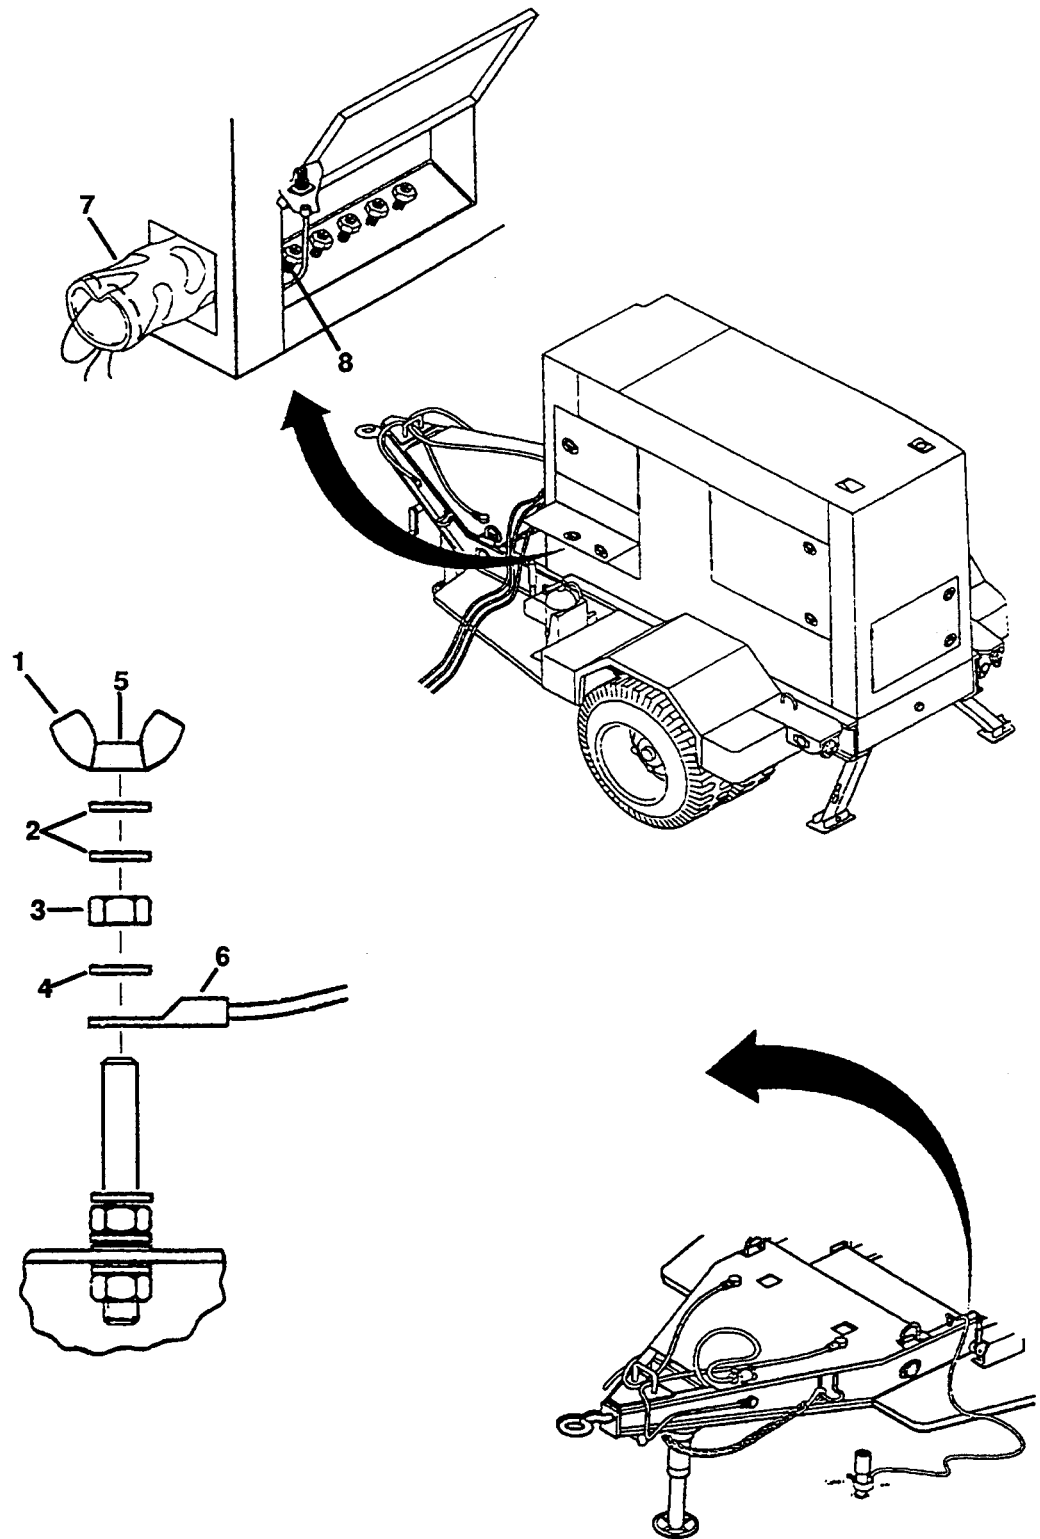

Figure 4-2A. Installation Instructions
Refer to figure 4-2A and assemble the AN/MJQ-40 as follows.
- (1) Remove wing nut (1, figure 4-2A) two flat washers (2), hex nut (3), and flat washer (4) from ground stud (5).
- (2) Place ground wire (6) over ground stud (5).
Refer to figure 4-2A and assemble the PU-803 and PU-804 as follows.
- (1) Remove wing nut (1, figure 4-2A), two flat washers (2), hex nut (3), and flat washer (4) from ground stud (5).